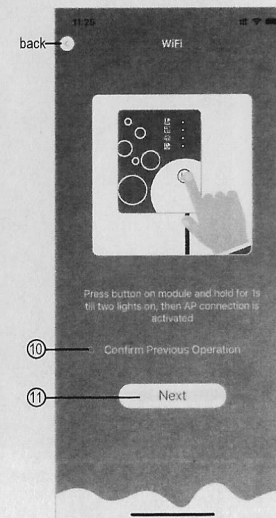
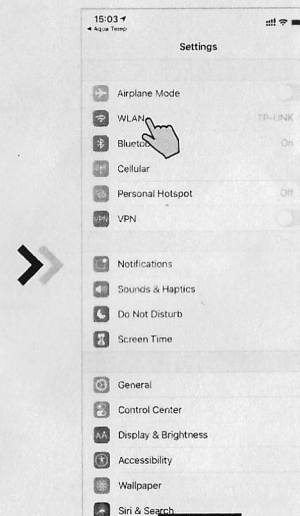
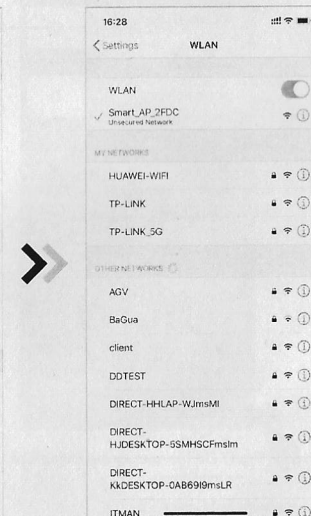

Fig.7 WIFI Module On interface
Fig.10 Setting interface
Fig.11 WIFI setting interface
1. Follow the instructions on the page (Fig. 7), press button on module and hold for 1s till two lights on, then AP connection is activated, click ⑩ to confirm, click ⑪ to turn the page;
2. Click ⑫ to enter the WIFI password for the current connection, click ⑬ to confirm;
3. Jump to system settings, connect specified WIFI, click ⑭ to select the "Smart_AP_xxx", click ⑮ to popup window(Fig.10), follow the instruction and then jump to WIFI setting interface(Fig.11);